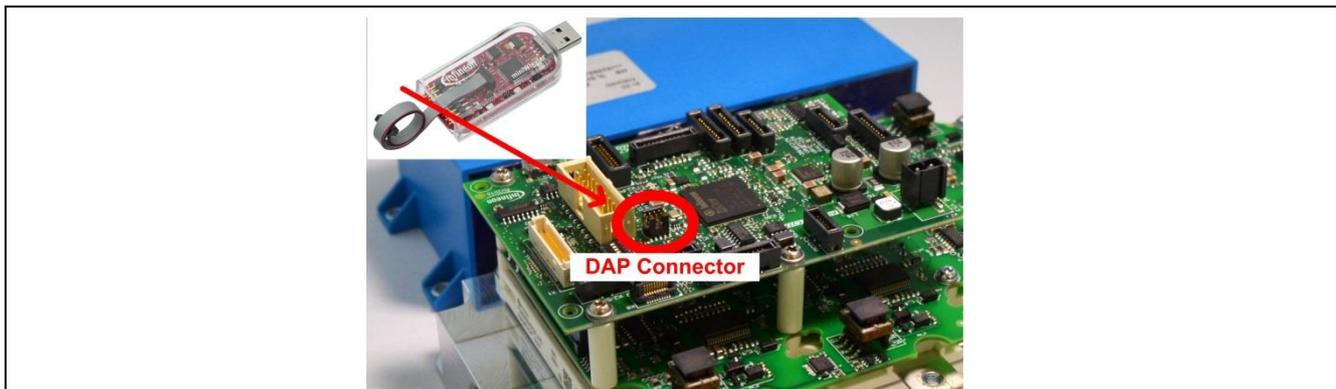

Figure 3 DAP miniWiggler and connector typical position on the evaluation kit.
- Connect the DAP miniWiggler to Logicboard (position see Figure 3)
- Target: Connect (1).
- File: Open (2). Select latest .hex software file.
- File: Select All (3).
- File: Add Selected Sections (4).
- Device: Programm (5).
- Target: Disconnect (6).